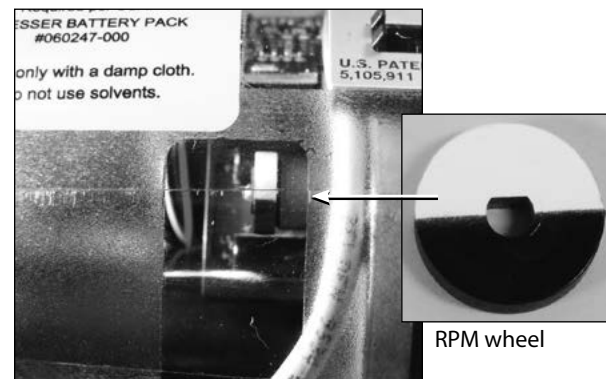

Figure 5.1 - Movement of the RPM wheel indicates impeller rotation
- a. Verify gas is flowing through the meter by watching for movement of the black-and white RPM wheel on the Accessory Unit. The wheel shown in Figure 5.1 is visible on the left side of the mechanical counter.